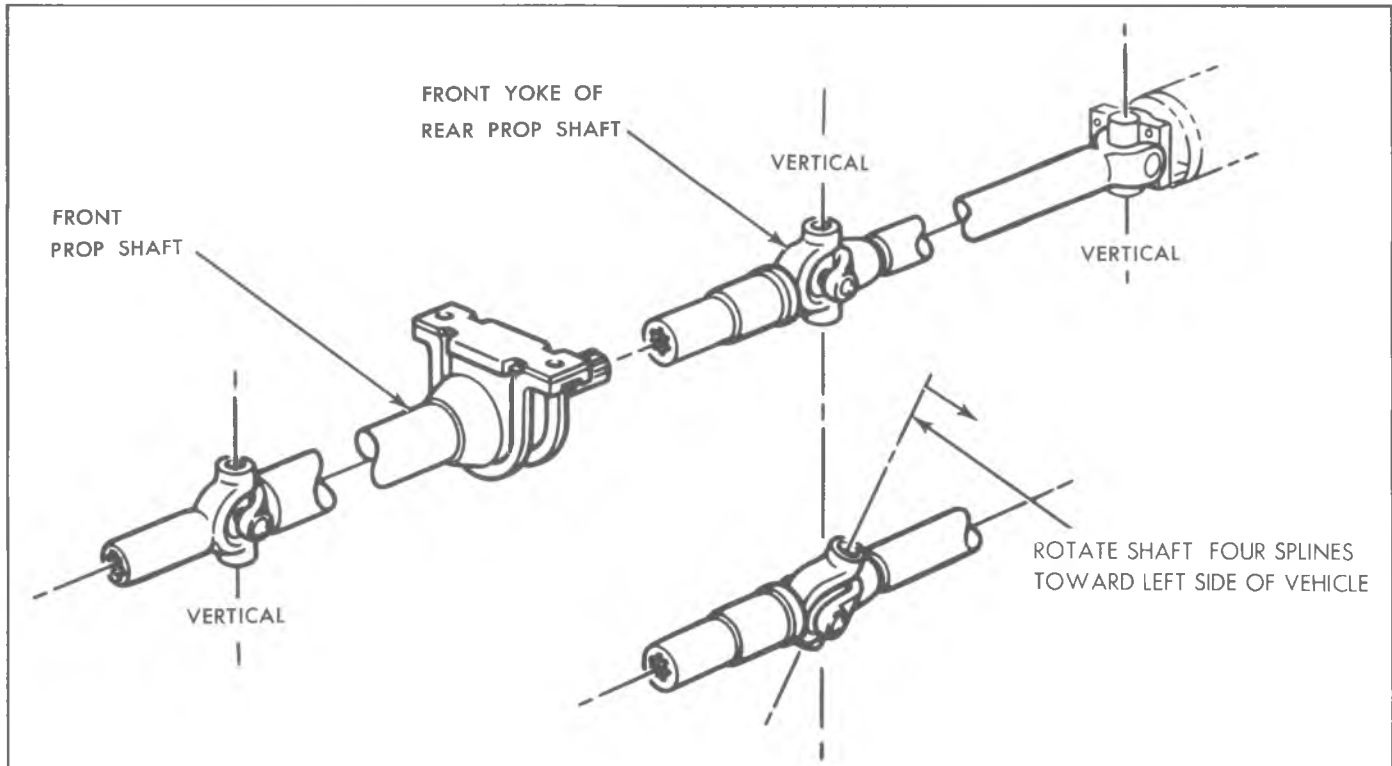

Fig. 29—Aligning U-Joints—G-K Models
- b. Rotate shaft so front U-joint trunnion is in a vertical position. See figure 29.